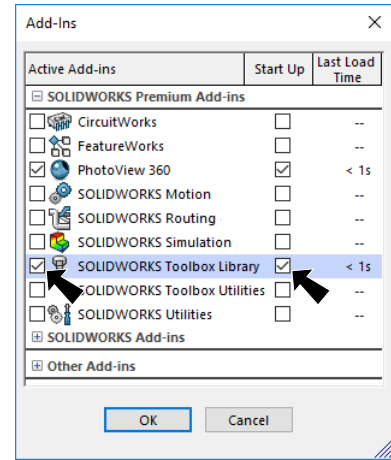

Fig. 1
Step 2. Check **SOLIDWORKS Toolbox Library** to place a check in the both check boxes, then click OK, **Fig. 1**.